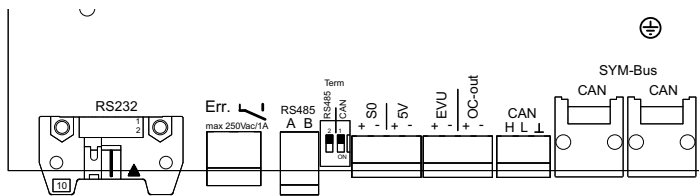

Figure 17: Interface terminals
3. Connect the connection cables to the corresponding connection terminals (see Figure 17 on page 28).
7. This termination does not depend on the manner of cabling that is used. The switch is found on the board next to the terminal block. (See Figure 17 on page 28)